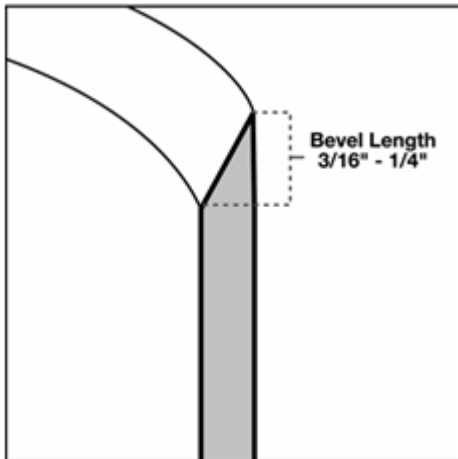

Figure 1c
**Correct bevel selection.** Knife bevels vary according to length and type. Bevel length is defined as the distance from the tip to the end of the honed surface. When cutting Celtec, the length of the bevel should be between 3/16" and 1/4" inches (Figure 1c).